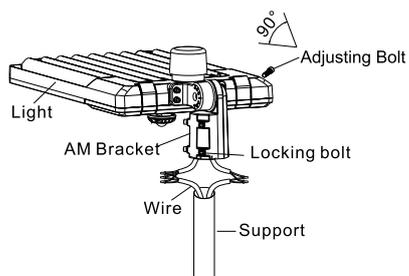
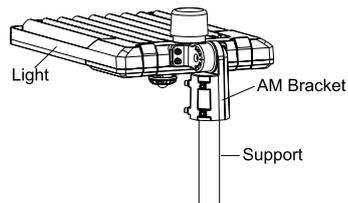

Figure 11
Figure 12
1. ADJUSTABLE FITTER MOUNTING (AM)
Step 1: Loosen the four bolts on AM bracket, connect the wires correctly, and pull the wires into the poles.(Figure 11)
Step 2: Place the bracket into the pole and lock the four bolts.(Figure 12) Notice: Adjustable angle is 0-90°(Figure 11)